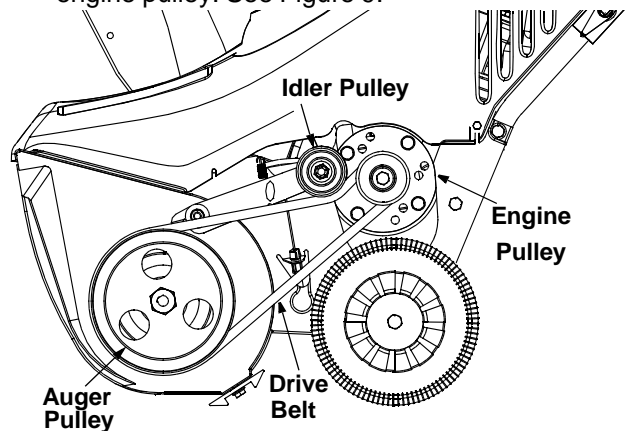

Figure 9
- Pull up on the idler pulley and slip the belt off the engine pulley. See Figure 9.